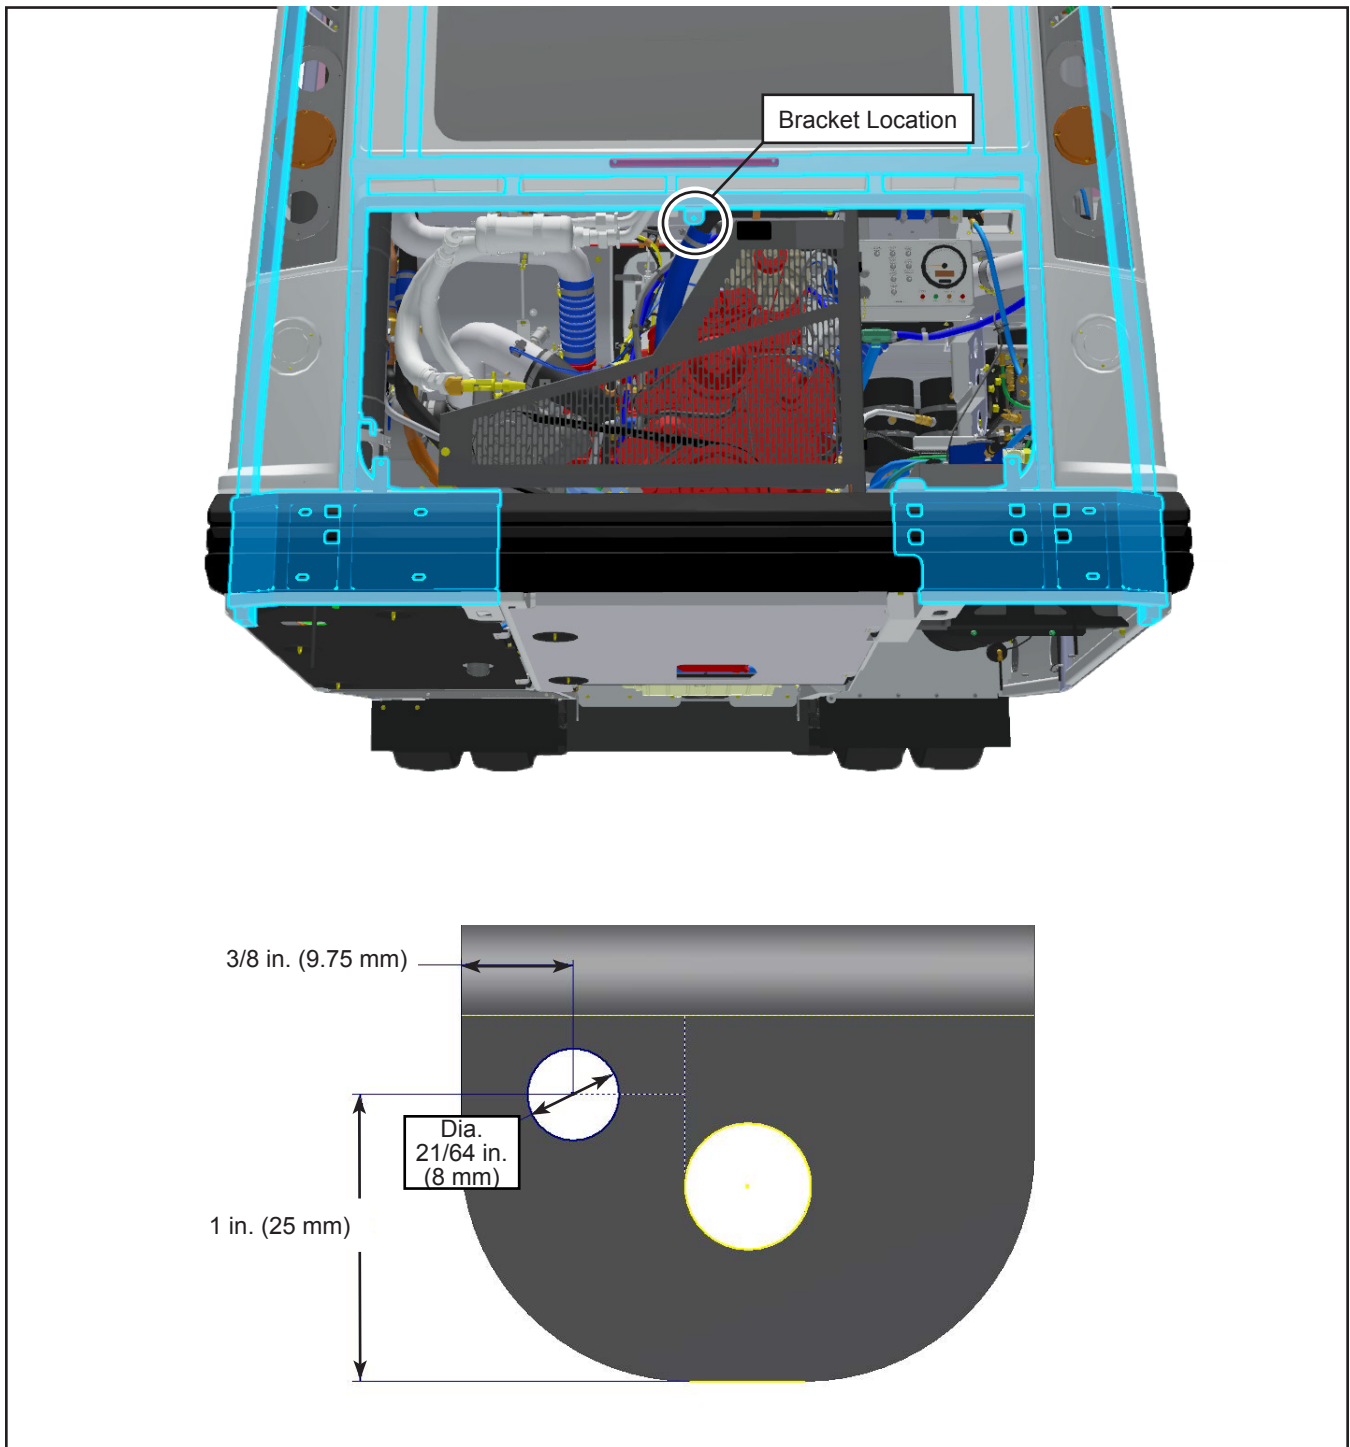

Figure 19 - Drill 8 mm (21/64 in.) for the Ground
- 1.37. Remove the paint and clean the surface for a proper ground contact (see Figures 19 and Figure 21).
- 1.42. Connect wire 64-2027 (10 BK) to the vehicle structure. Make sure there is no paint between the ground and the structure (see Figures 19 and Figure 21).